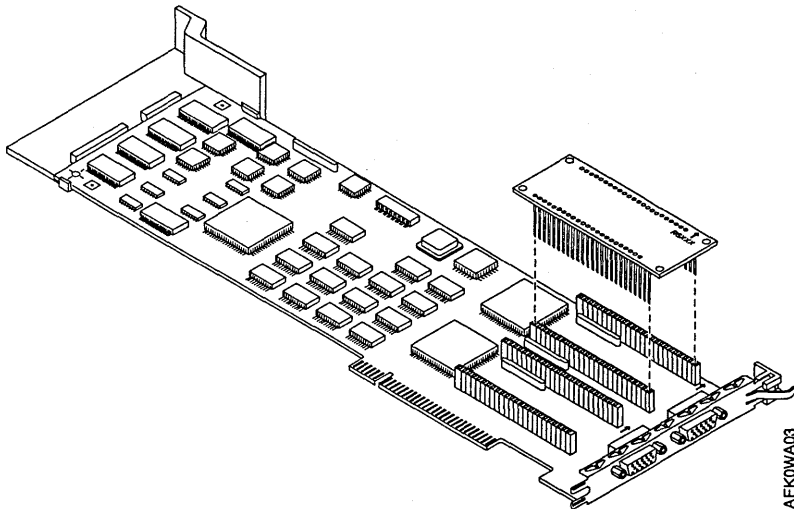

Figure 22. Installing an EIB in a WAC Adapter Card
- 3** Orient the keyed EIB above the two rows of sockets for the selected link. Avoid touching the pins of the EIB. Match up the guide arrows on the EIB and the WAC adapter card as shown in Figure 22.